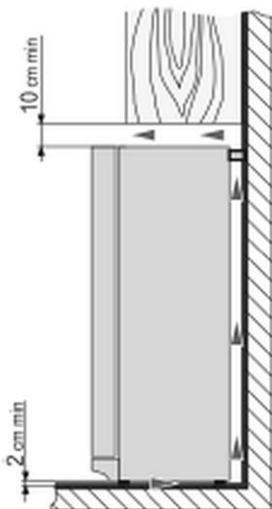

Fig. 4
- Maintain a minimum clearance of 10 cm between the top side of the appliance and objects that are above it (e.g., a cabinet) (Fig. 4).